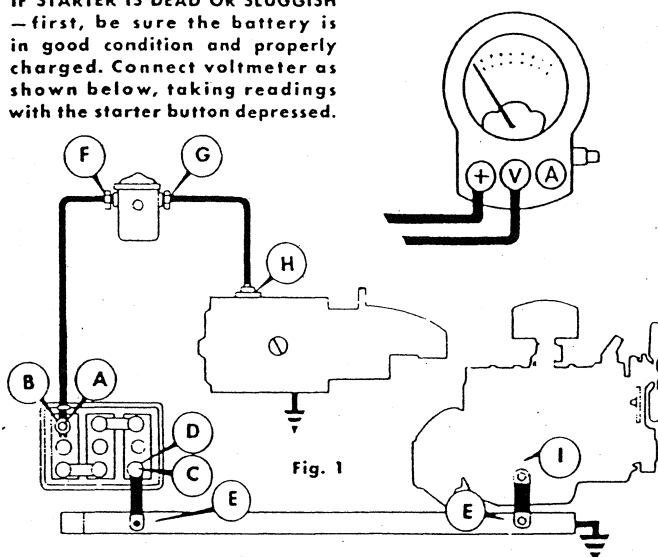

Fig. 1
Broken ground strap, car frame to motor block or transmission. Loose or dirty connection at either end.	Test voltage drop (E) to (I). See Page 5, Fig. 1. Clean and tighten connections if necessary.